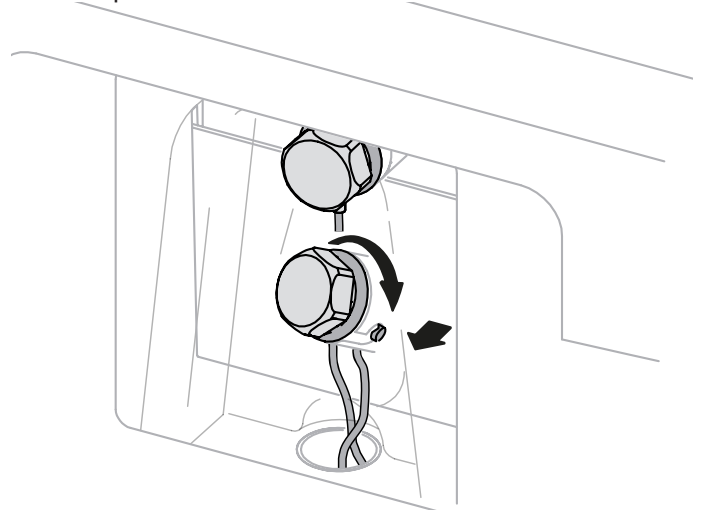

Figure 20: Sensor removal
- ▶ Ensuring the unit is drained, use an appropriate tool, remove the sensor cover, see figure 20 below. Underneath the cover are two sensor assemblies, they are the water level sensor, lower bolt and the tank overflow sensor, upper bolt.